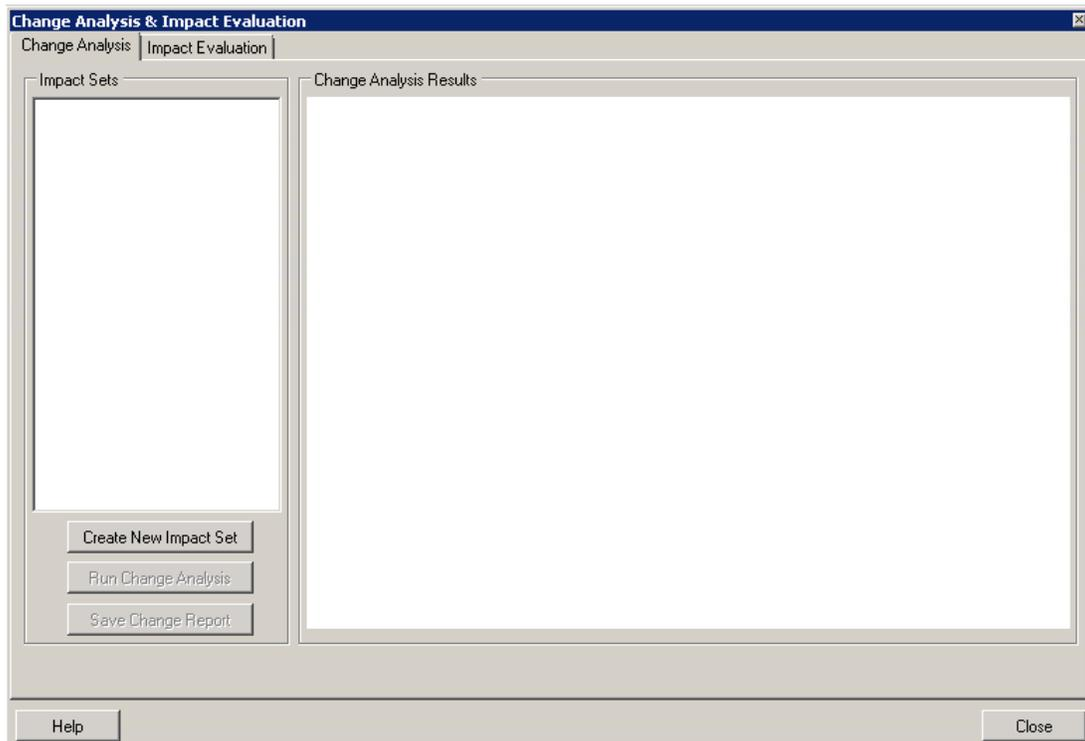

Figure 8-4 Change Analysis &amp; Impact Evaluation Dialog Box
1. From the menu bar select *Results, Change Analysis*. The *Change Analysis & Impact Evaluation* dialog box will open (Figure 8-4).